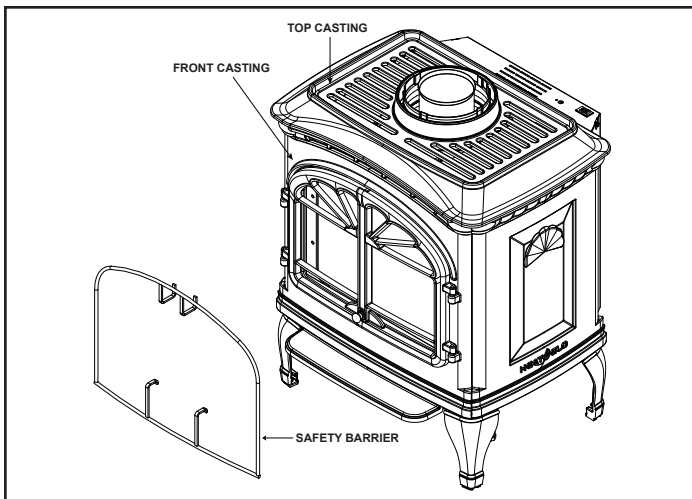

Figure 6.11 Remove Casting
10. Remove front casting. See Figure 6.11.